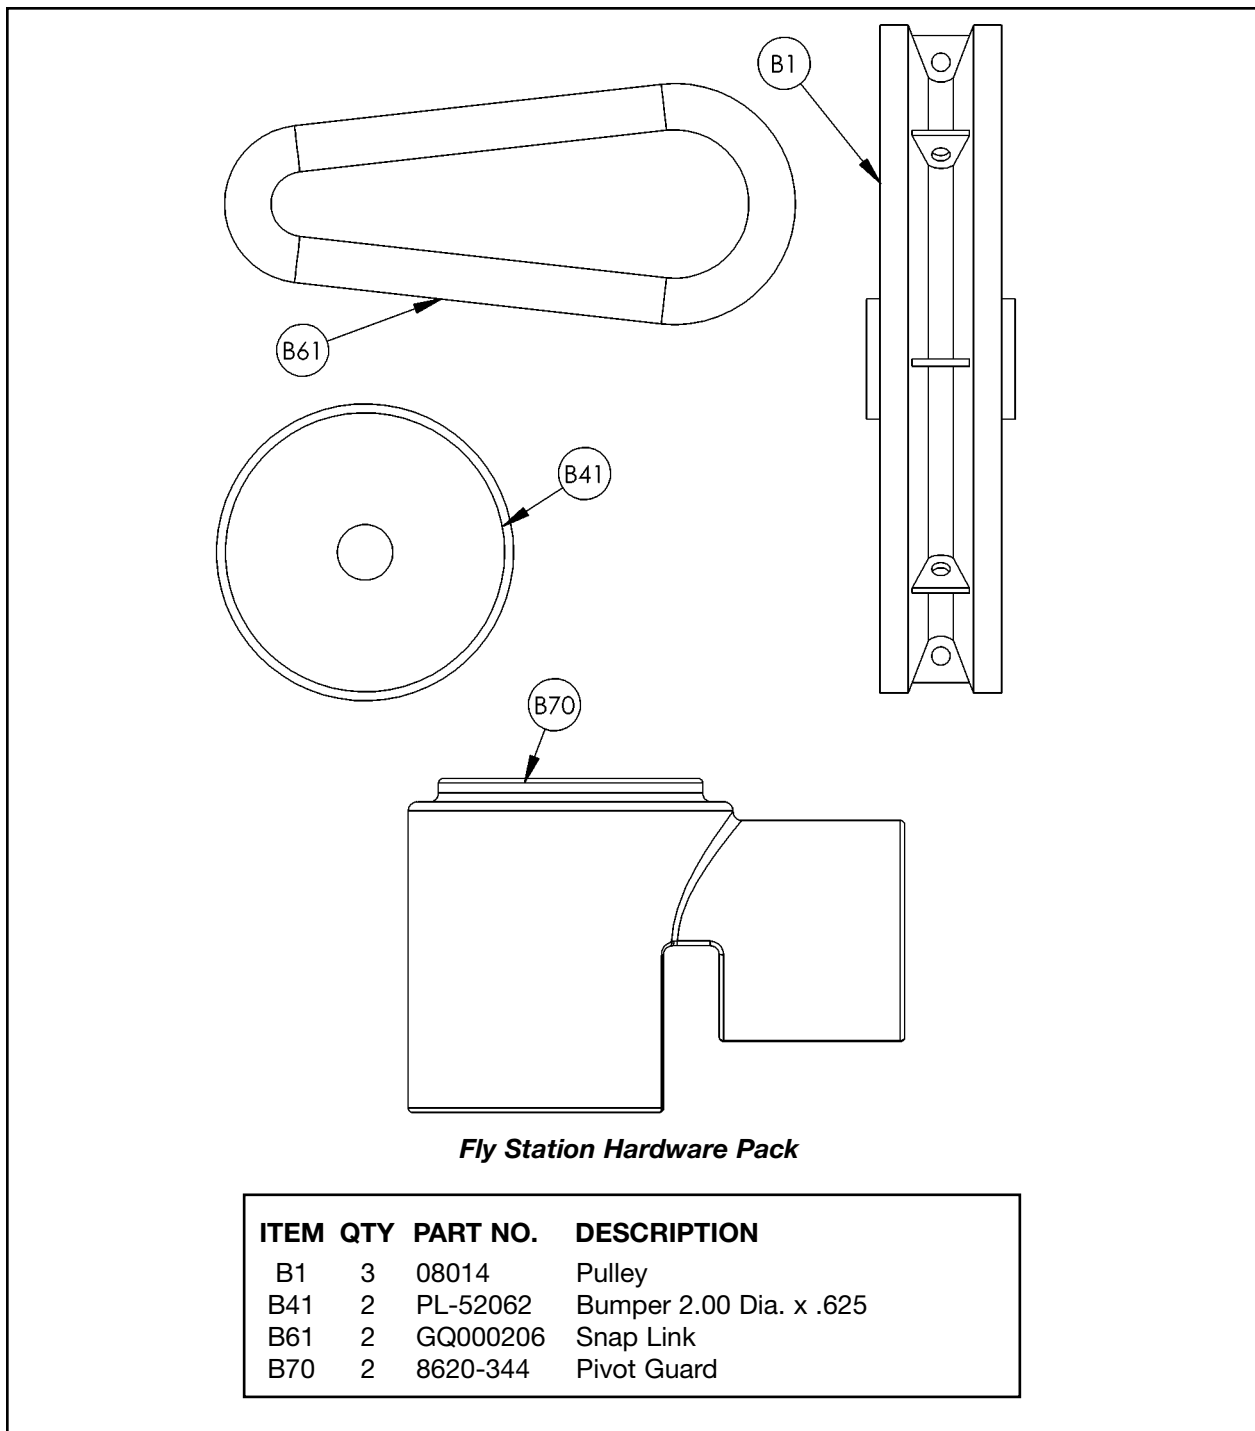

Figure 4
**2. Verify contents of the Fly Station hardware pack** (see steps 2A - 2B and Figures 4 and 5).
**B.** Verify contents of hardware pack. If desired, sort out hardware into different containers. Do not combine hardware with other hardware packs. See Figures 4 and 5 for contents of hardware pack.